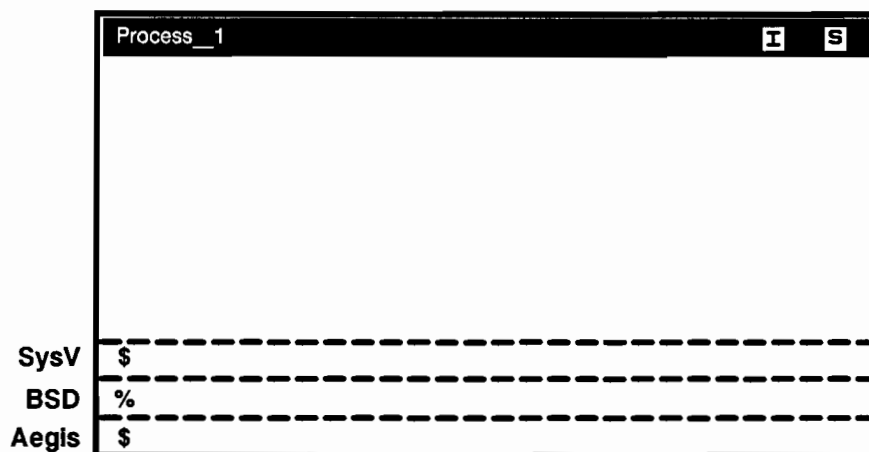

Figure 3-7. Process Window Showing Default Shell Prompts
8. Your screen comes up with a blank process window as shown in Figure 3-7.